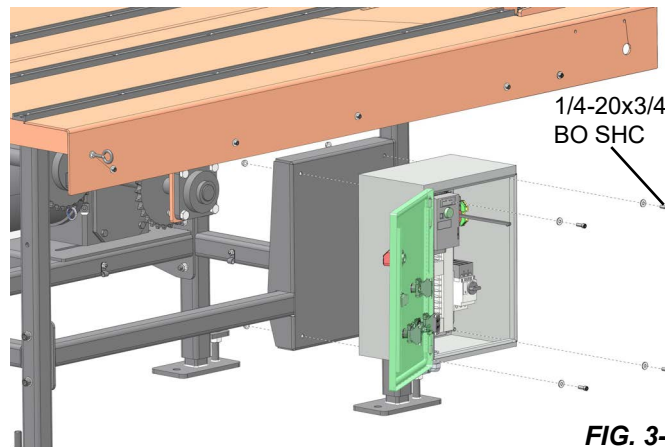

FIG. 3-9
1. Mount the electrical box to the frame by the 4 bolts at the inside corners of the box as shown in FIG. 3-9.